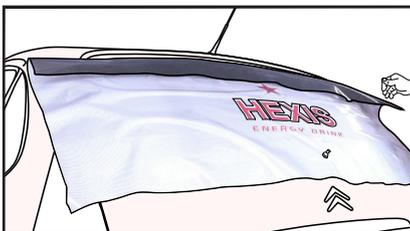

Figure 12
- › Fold down the top of the film so that the adhesive side does not come into contact with a bodywork part such as spoilers. (FIG. 12)